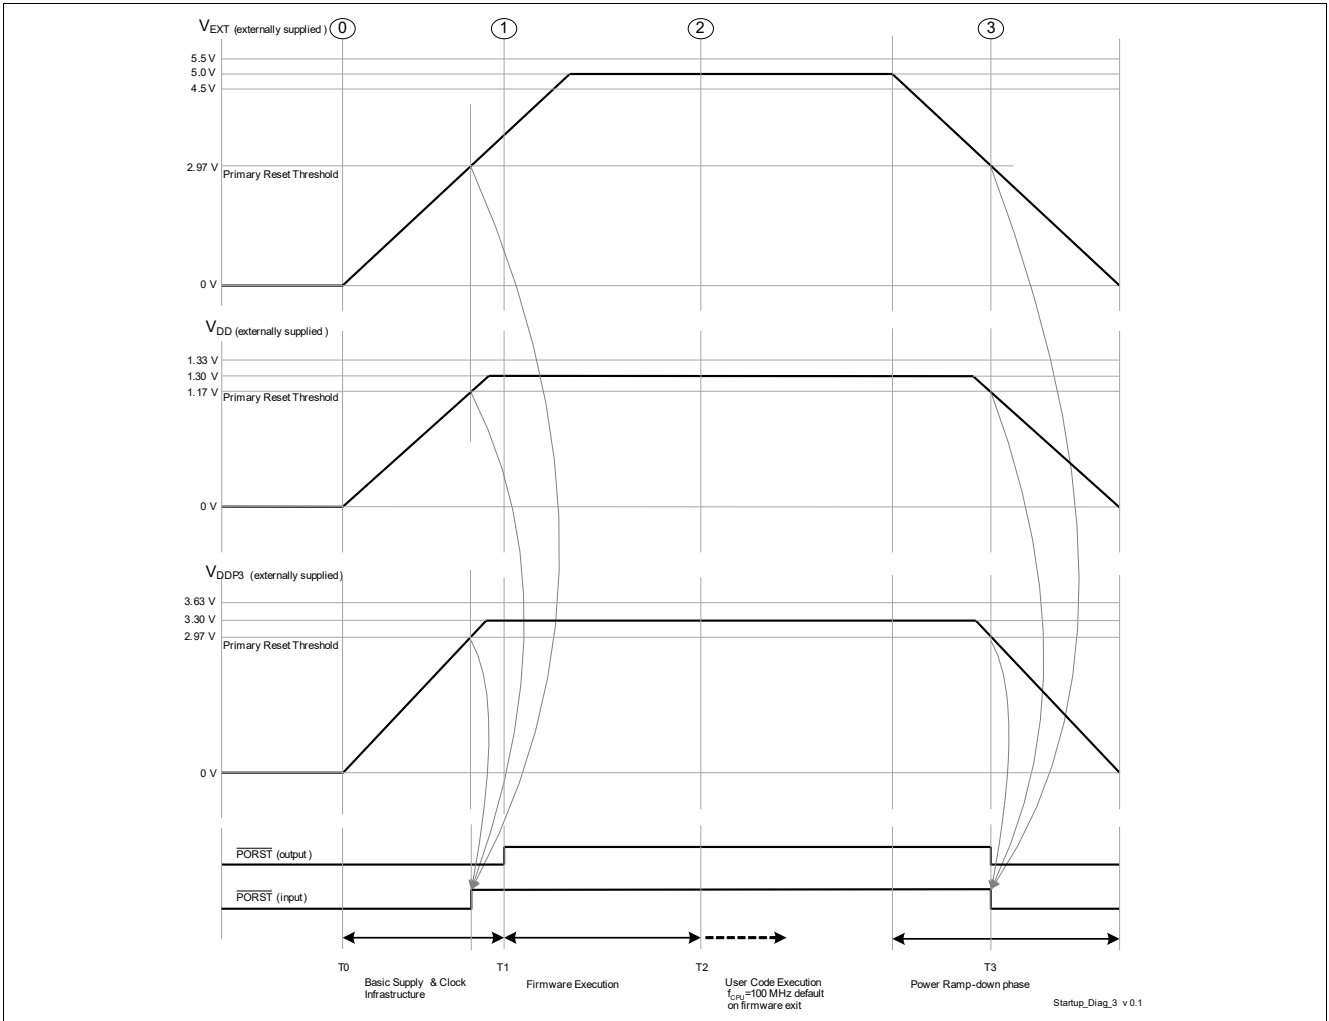

Figure 3-5 External Supply Mode - 5 V, 3.3 V & 1.3 V externally supplied
- The power sequence as shown in Figure 3-5 is enumerated below